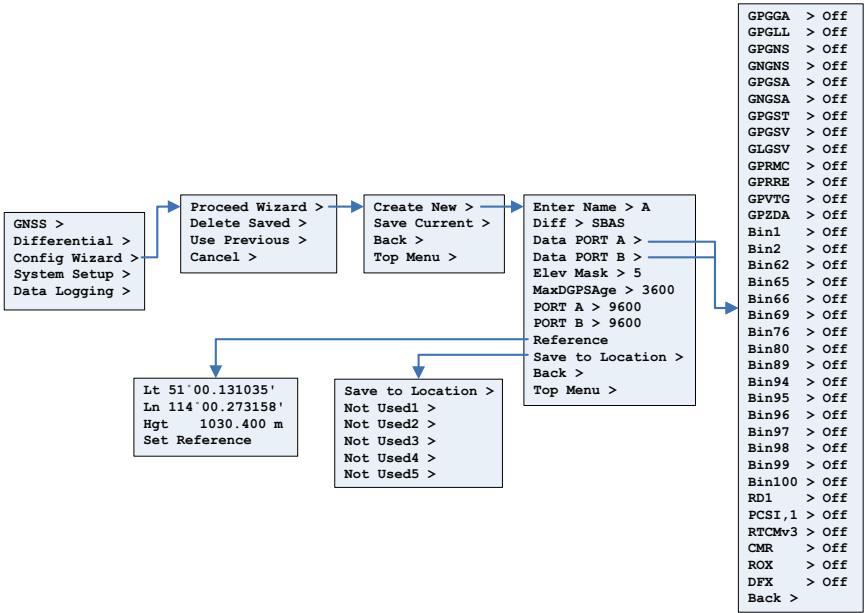

Figure 3-3: Config Wizard menu
This section describes the basic Config Wizard options you need to set to get up and running. Figure 3-3 outlines the menu structure of the Config Wizard menu.
2. Select **Create New** to create a new configuration. You are prompted to enter a name for your configuration. In addition to the Name you can set the options shown at right (also shown in Figure 3-3 on the previous page).